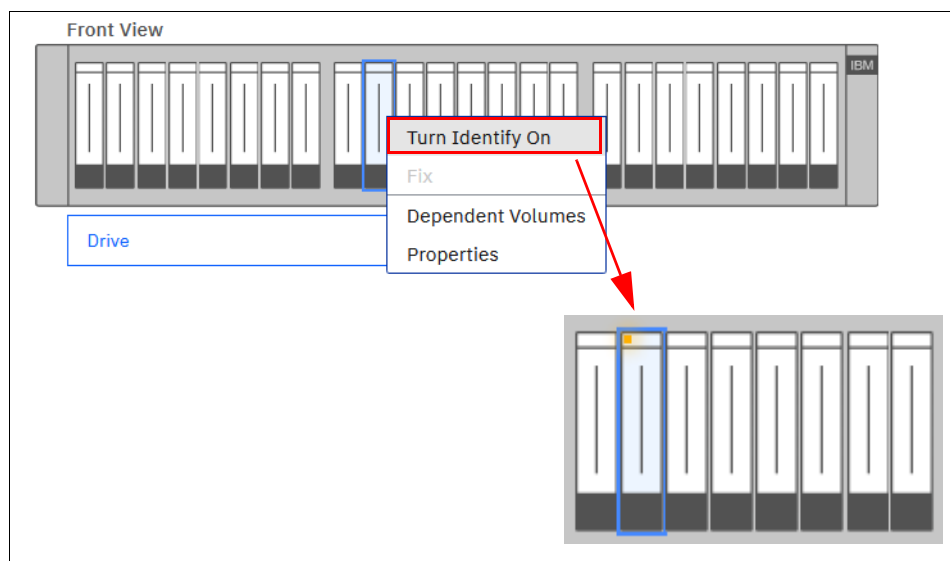

Figure 4-36 Turning on the Identify LED
1. Select the suitable drive and click **Turn Identify On**, as shown in Figure 4-36.